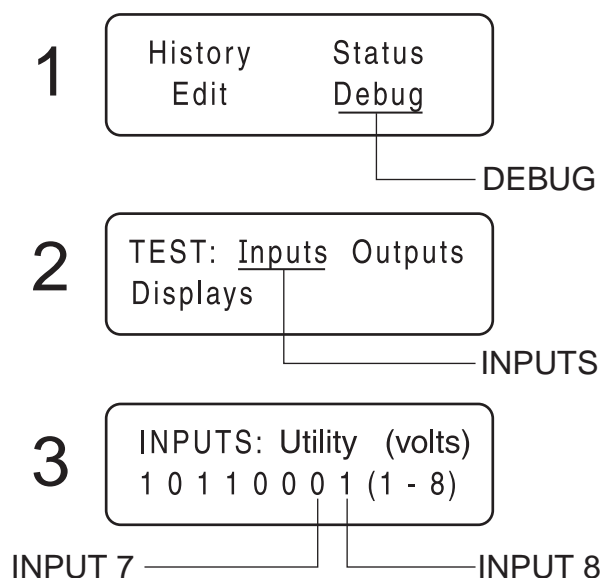

Figure 108. The Home Page, Debug and Input Screens
1. Press the “ESC” key on the controller until the home page is reached (Figure 108, Screen 1).
2. Press the right arrow key until “Debug” flashes. Press “Enter” and the following screen will appear. See Figure 108, Screen 2.